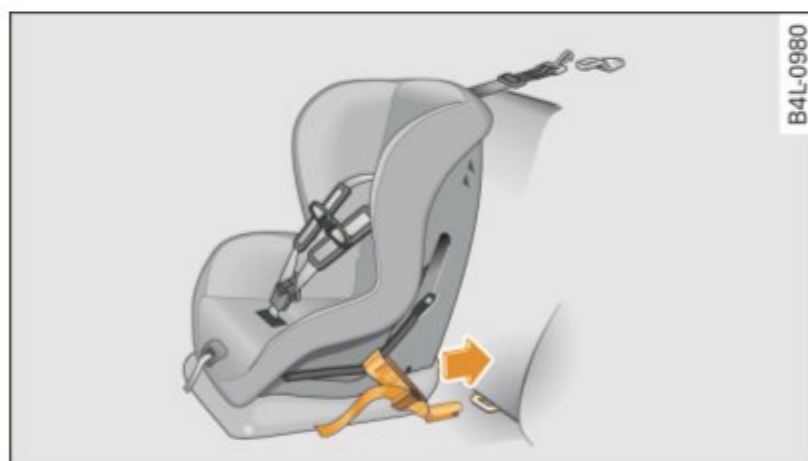

Fig. 201 Lower anchorages: proper mounting
- Attach both hook-on connectors with the spring catch release on the child safety seat onto the LATCH lower anchorage so that the connectors lock into place ⇒ *fig. 201*.